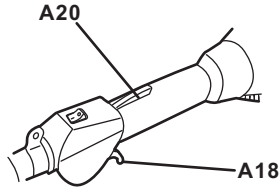

Fig. 14
1. Press the throttle interlock (A20), hold it in position and then press the throttle trigger (A18) to engage the attachment (Fig. 14).